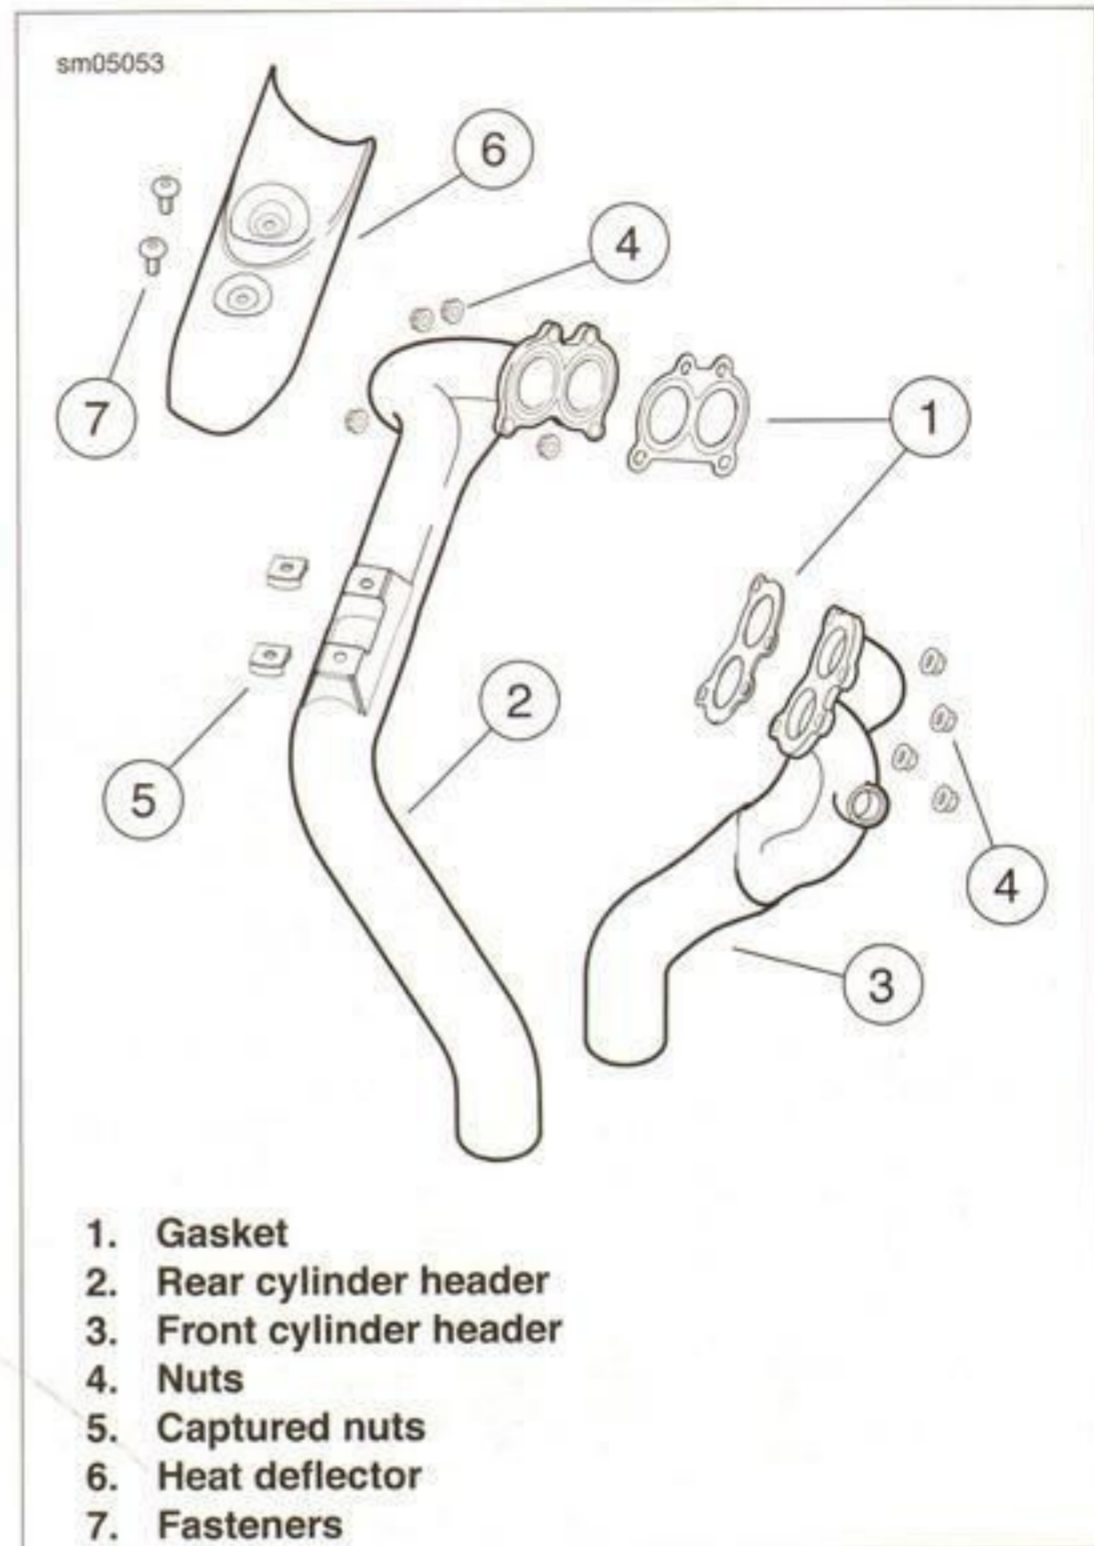

Figure 4-50. Exhaust Headers
1. See Figure 4-50. Install **new** header gaskets (1).
2. Install the rear header (2) on the rear cylinder head studs.
3. Install the front header (3) on the front cylinder head studs.
4. Thread on the header flanged nuts (4).